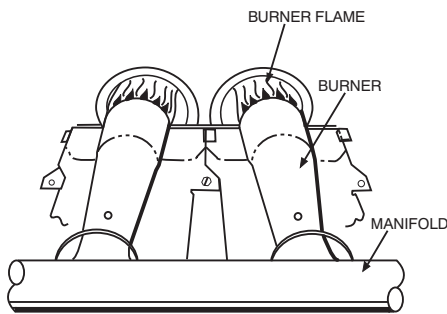

Fig. 10 – Monoport Burner
1. Inspection of all flue product passages-including the burners, heat exchanger, and flue collector box. Make sure the burner flames are blue in color and in proper adjustment. Refer to Fig. 10 for burner flame.